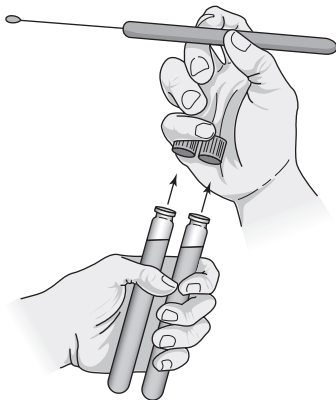

FIG. 2.2a. Holding caps with your pinky.
Opening Transfer Tubes. Place the caps of these tubes in the palm of your hand adjacent to your pinky, as you make a fist (Fig. 2.2a). The caps can now be removed without contaminating the tubes, the caps, or your hand. *Avoid using your thumb to hold the caps.* You will be using your thumb to hold and guide the inoculator. *Never place the caps on the table.*
3. Open both tubes by placing the caps in the palm of your hand adjacent to your pinky, and making a fist; alternatively, hold the caps slightly apart and use your pinky and ring finger to remove the caps. (See Figs. 2.2a and 2.2b.) *Avoid using your thumb and never place caps on the table!*